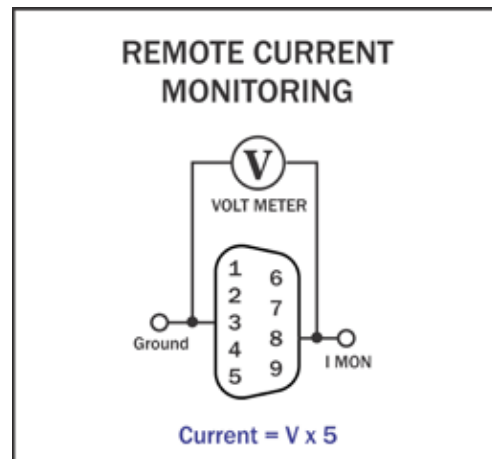

Figure 7.4 – Remote Current Monitor
**Method:** Connect a voltage meter to monitor the output current being produced by the amplifier. Connect across I MON (PIN 8) and Ground (PIN 3 or 6). See **Figure 7.4**.